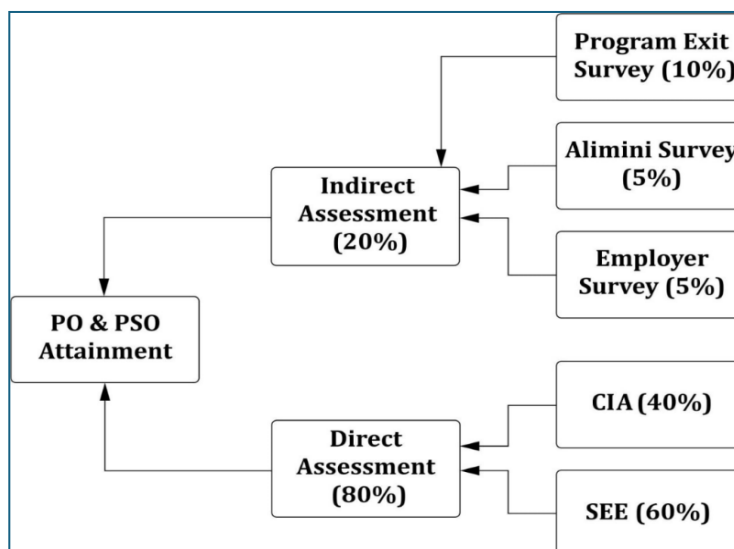

Figure 5: Evaluation Process of POs and PSOs Attainment
- Direct assessment is calculated through Continuous Internal Assessment (CIA) and Semester End Exam (SEE) and Indirect assessment through feedback form from program exit survey, employers/industry, and alumni. The figure 5, represents the evaluation process of POs attainment.